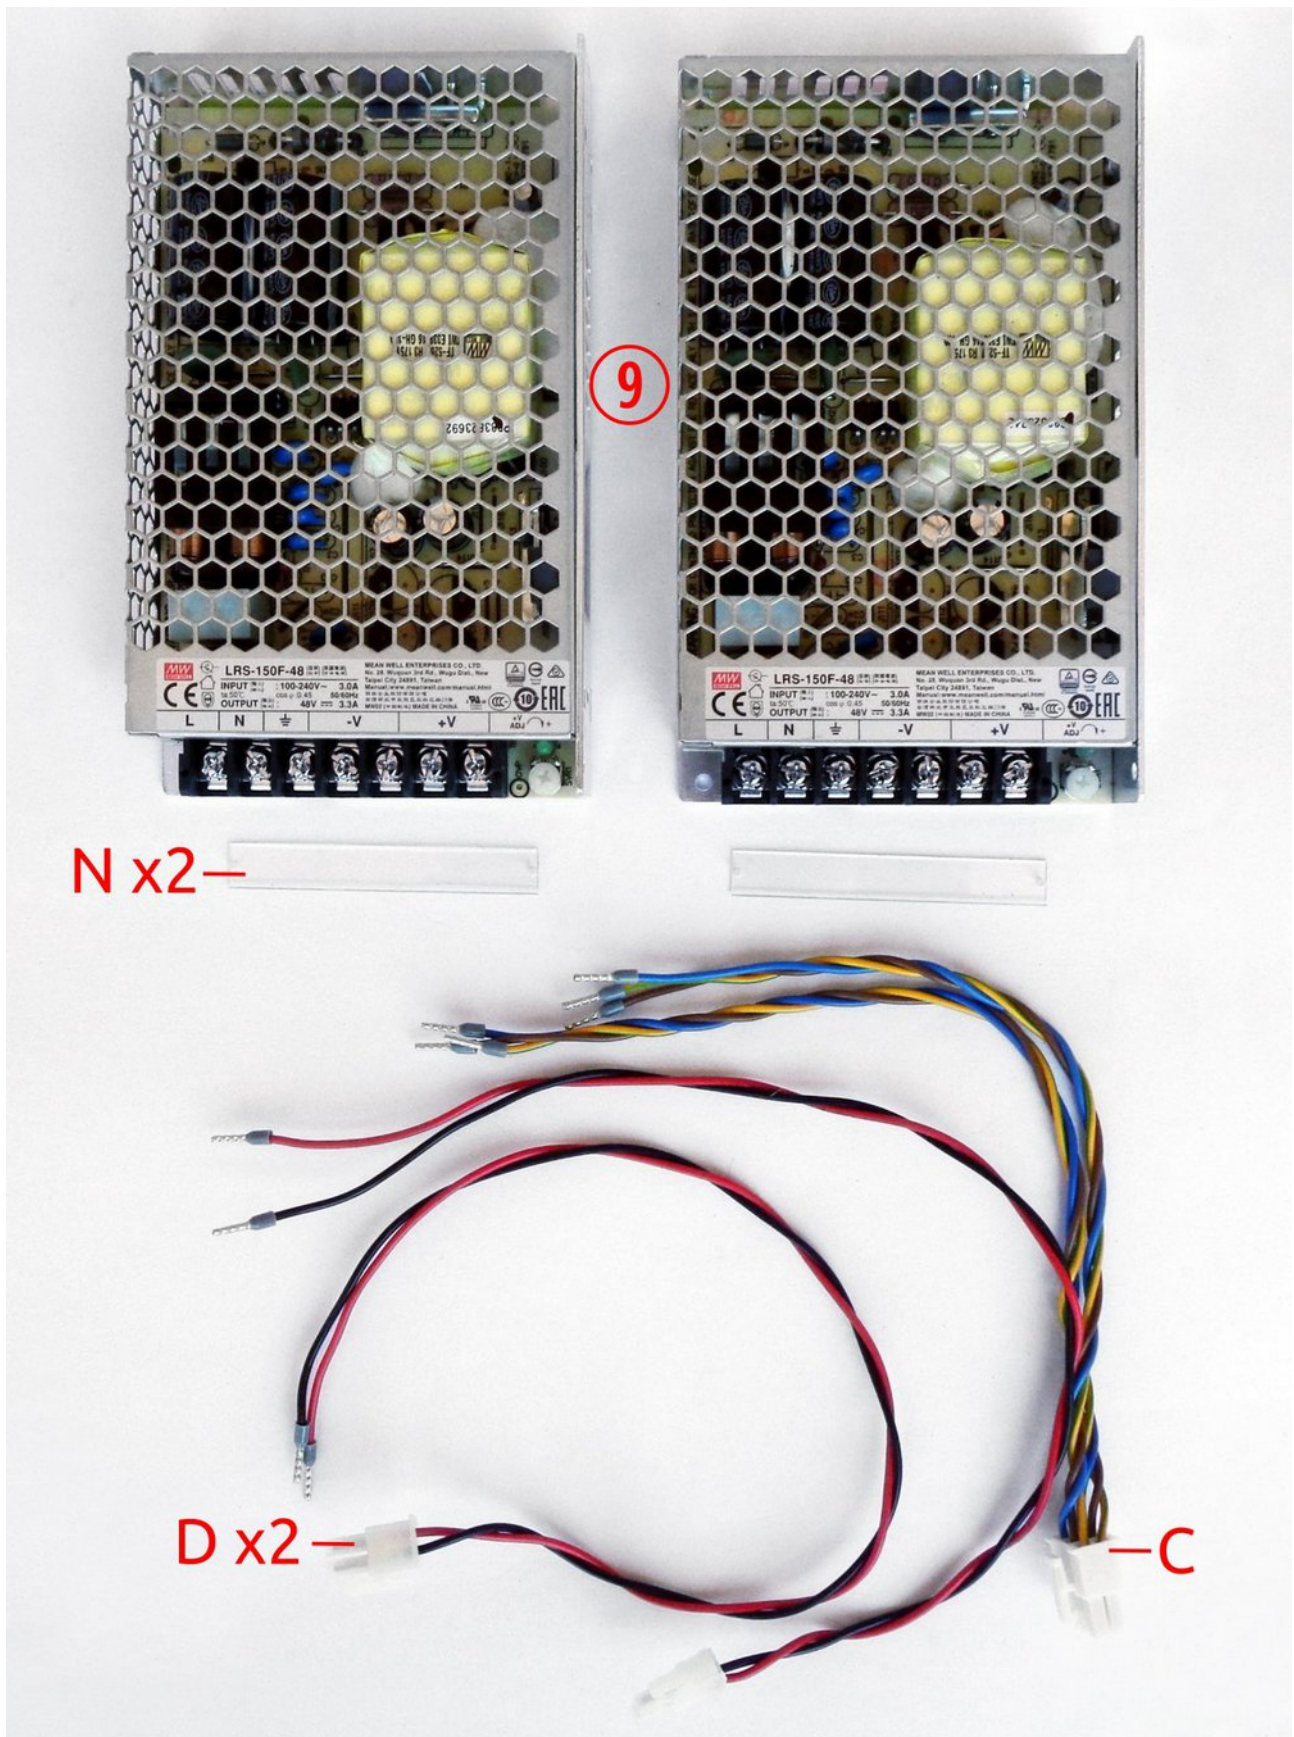

Fig. 27: Mean Well AC/DC converters and related wiring
The power modules (item 8, Fig. 2) require 48 VDC. Mean Well AC/DC converters are used for this purpose (item 9, Fig. 2). Fig. 27 shows the connecting cables and terminal covers. Note that the dual AC power cable has two arms of different lengths (Fig. 28). The shorter cable goes to the Mean Well converter that is closer to the AUX-PS module as shown in Fig. 29.